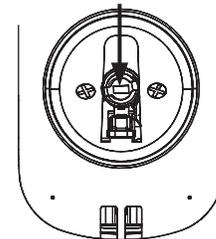

Figure 7
- 7. Install inside escutcheon on inside mounting plate. Note the horizontal orientation of the tail-piece (Fig. 7) as you insert the inside escutcheon (thumbturn should be vertical).